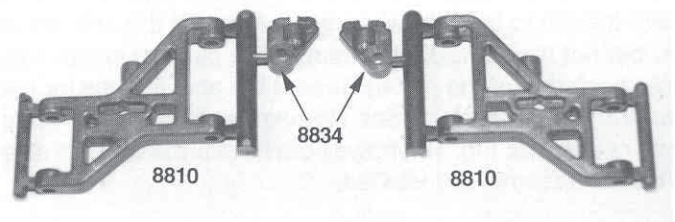

Fig. 10
□ **Figs. 10 & 11** 1) Remove the two #8810 molded front suspension a-arms, two #8834 front arm shock mounts and two #6918 4-40 x 1/2" button head socket screws from bag #8-1. (One arm and shock mount will be attached to the same runner, so there will be two sets because the arms and mounts are interchangeable--left or right side--until we fasten the shock mounts in place.) 2) Trim the arms and mounts from the runners in the locations shown. 3) Place the shock mount on top of the left arm into the recess in the arm, making sure the angled side of the mount is on the inside of the arm. 4) Now turn the arm upside down and thread in the 4-40 button head screw with the 1/16" Allen wrench (second smallest) from your #6950 tool bag. **Note: An Associated #6958 1/16" Allen driver or similar driver would make this assembly easier and quicker.** 5) Assemble the right arm the same way. The arms will be mirror images of each other.